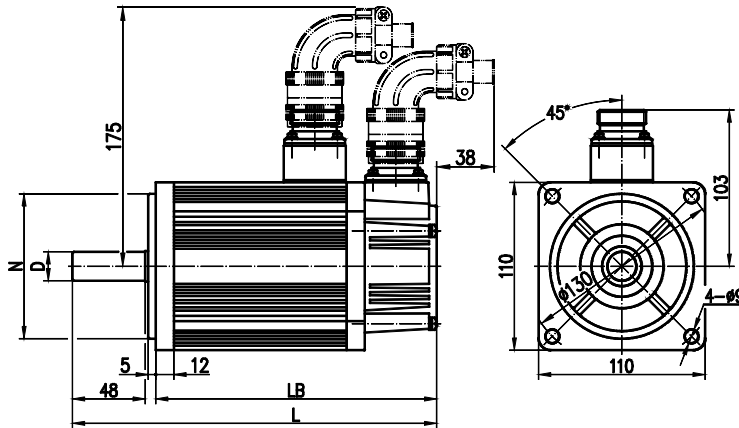

Fig. 2
5.2 Refer to figure 2 and list 8 about 110SJT series motor overall installation dimension.